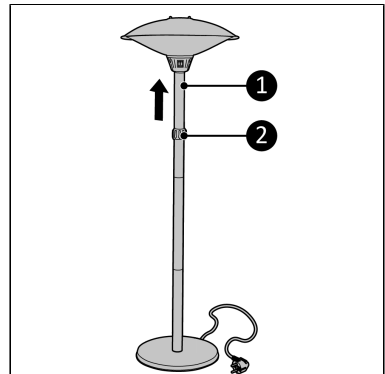

Figure 22.
9. Loosen the adjustment knob (Figure 22, pos. 2) and slide the inner tube (Figure 22, pos. 1) out of the adjustable tube to the maximum height.